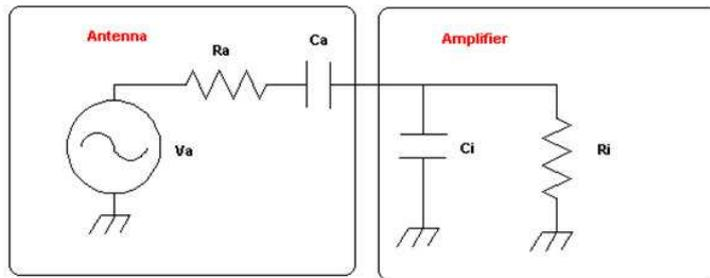

Figure 3: A short monopole equivalent circuit connected to an amplifier
A short monopole ($l < 0.1\lambda$) has an effective height (H) approximately equal to its length (L). The equivalent circuit, connected to the amplifier is shown in Figure 3: